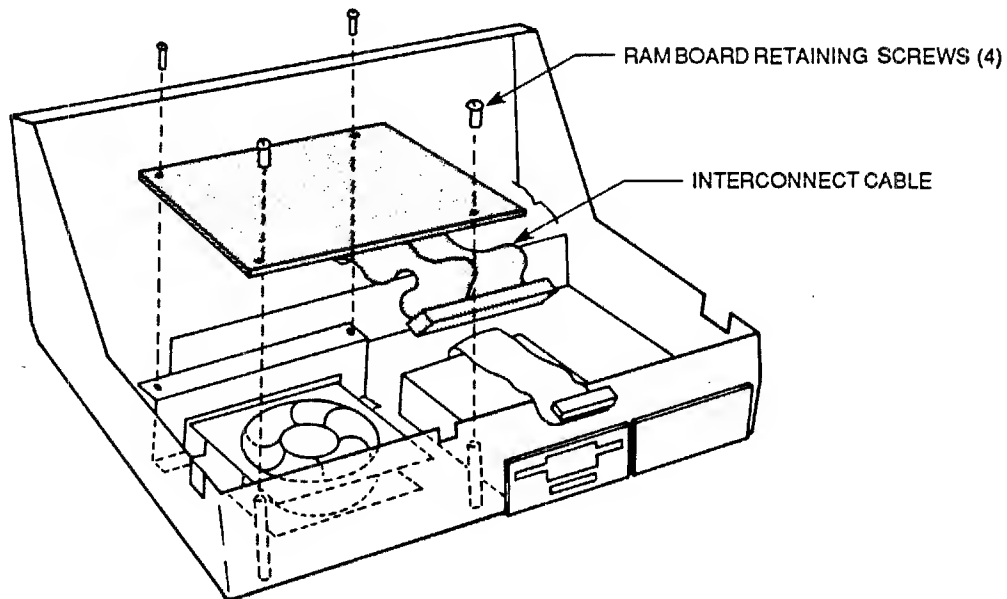

Figure 2-5. Removing the Expansion RAM Board
2. Remove the four retaining screws shown in figure 2-5.